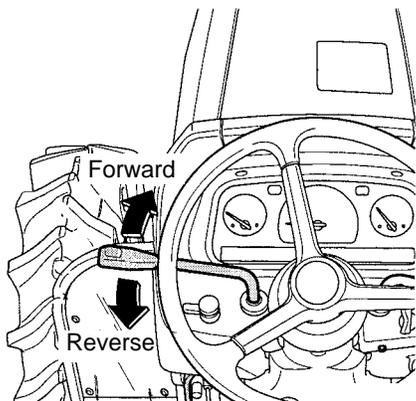

Figure 27
- Shift the Forward/Reverse Shift Lever to desired direction. See Figure 27.